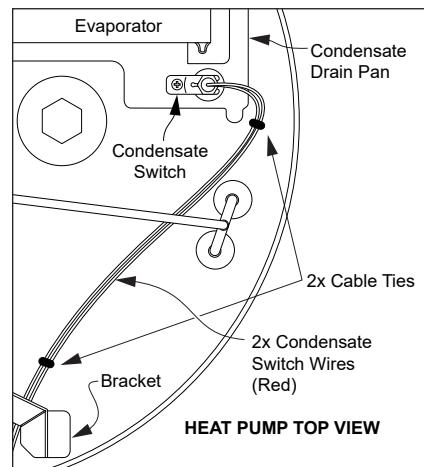

Figure 61 - Locating Condensate Drain Switch
- Locate condensate switch assembly (see Figure 61).
**14** Run the new condensate wires under the bracket (see Figure 61) and reconnect them to the J1 terminal on the control board.
**15** Locate the new cable ties provided in the kit and secure the condensate wires such that they will not interfere with other components in the heat pump compartment (see Figure 61 as reference).